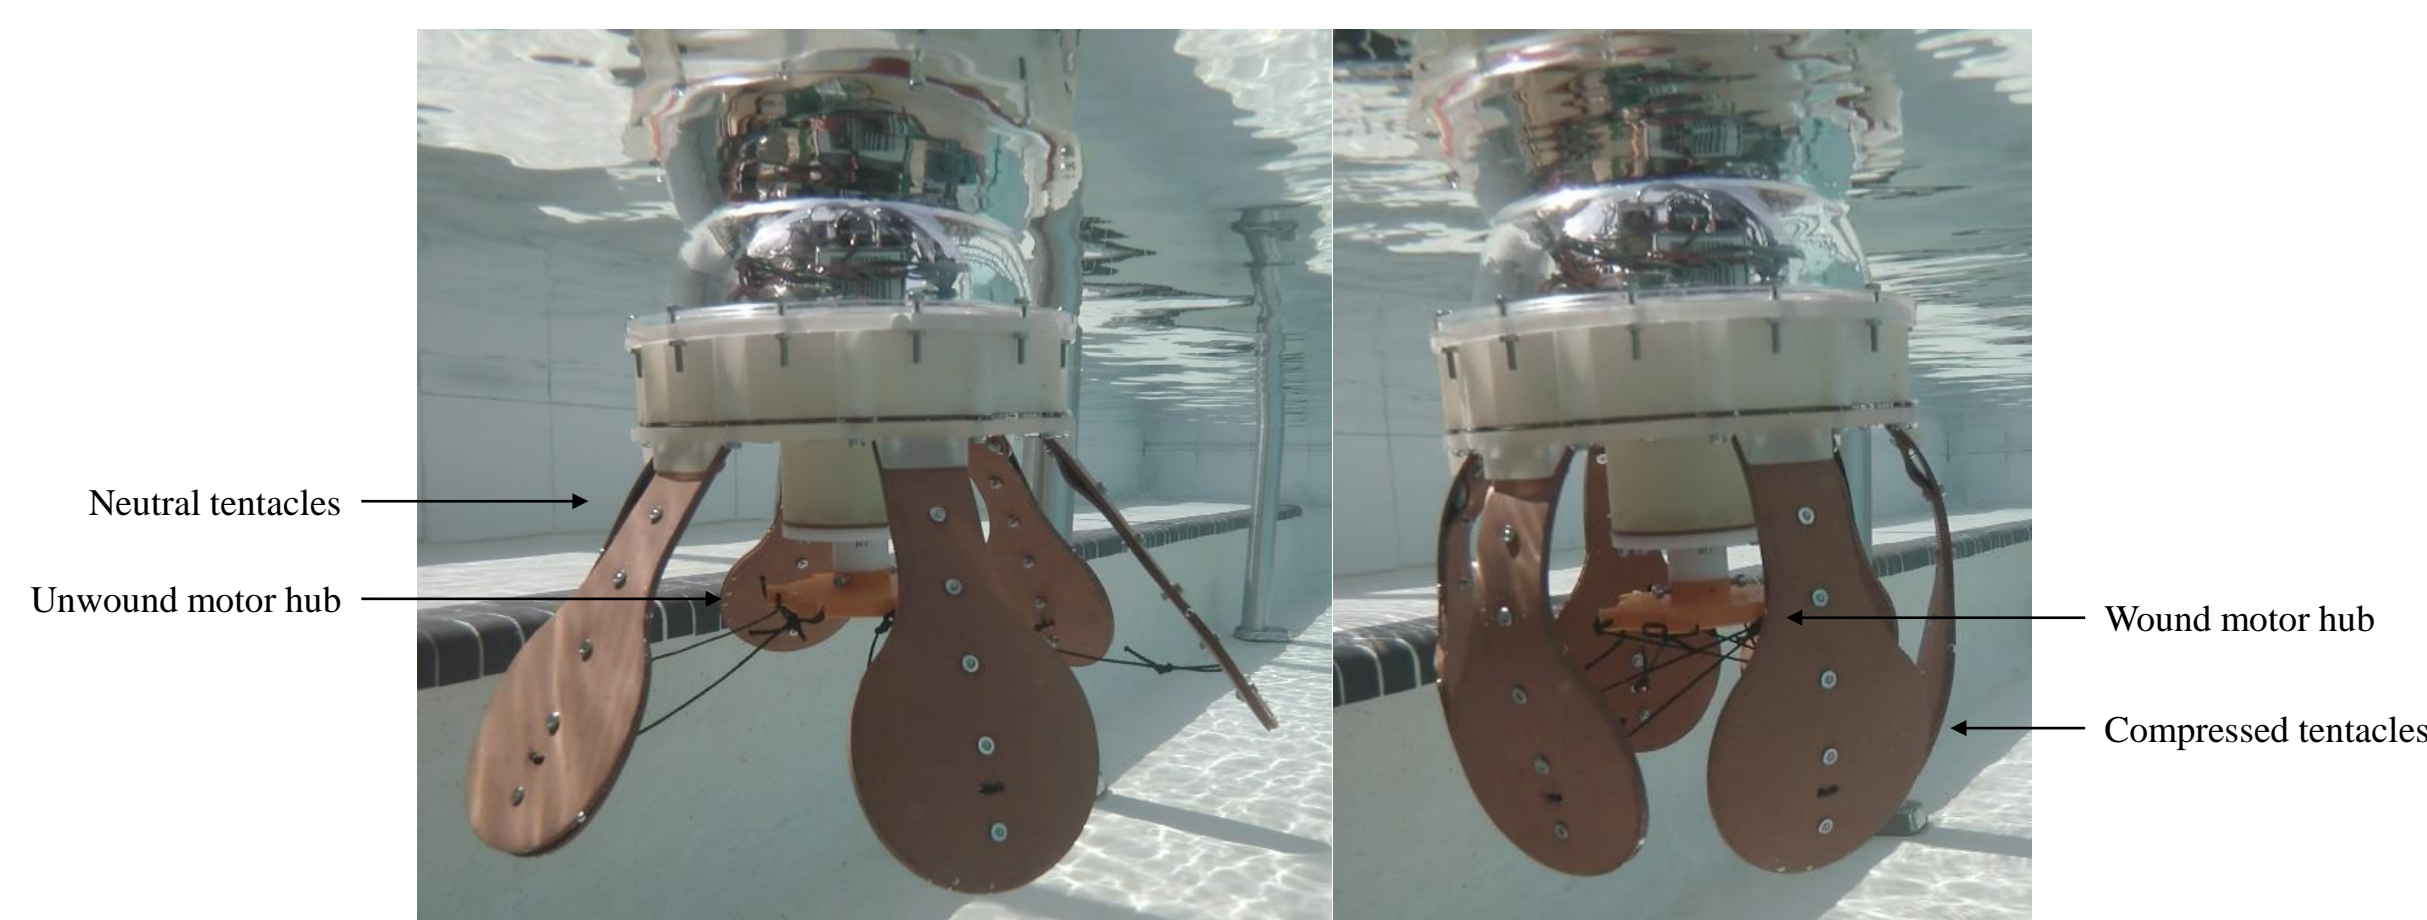

Figure 2: Neutral vs. compressed tentacle positions
*Mechanism:* motor hub retracts tentacles, creating a jet of water as seen in Figure 2